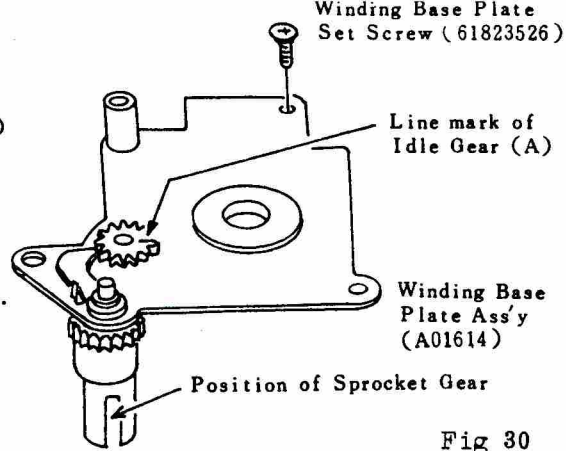

Fig 30
- c) Make position with Sprocket Gear and drawn line mark of Idle Gear (A) as shown in (Fig 30) and while maintaining Sprocket position carefully set winding Base Plate Ass'y (A01614) into the camera body. Tighten the Winding Base Plate Set Screw (61823526).